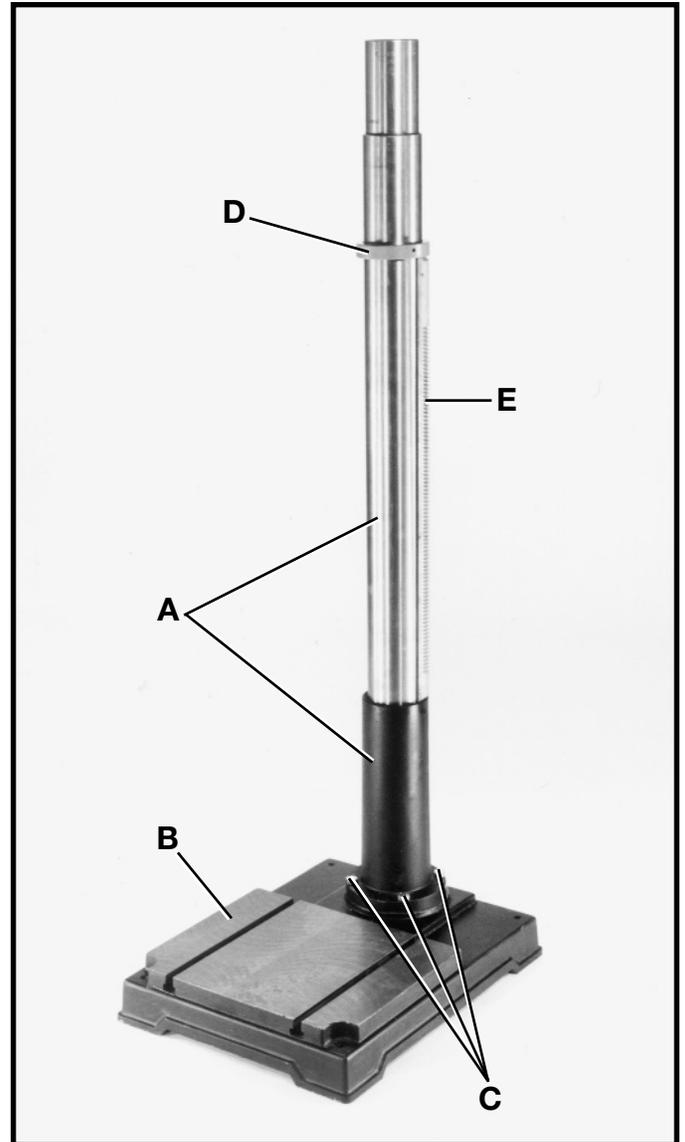

Fig. 2
1. Assemble column (A) Fig. 2, to base (B) using four M 12 x 45mm long hex head screws (three of which are shown at [C]). Loosen set screw in collar (D) and remove collar (D) and raising rack (E).